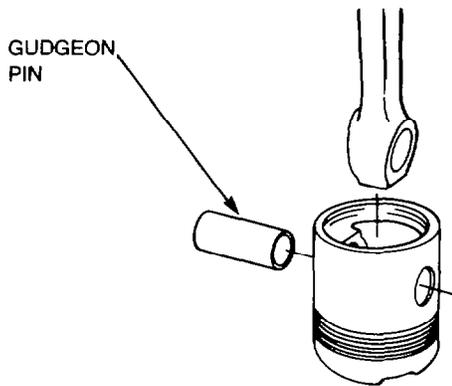

Figure 13 — Piston — Disassembly
- ah. Using a suitable pair of insulated gloves remove a piston from the boiling water. Remove the gudgeon pin from the piston with a suitable blunt drift, then mark the piston number on the gudgeon pin with a suitable marking pen. Repeat this procedure until all the pistons are disassembled (see Fig. 13).